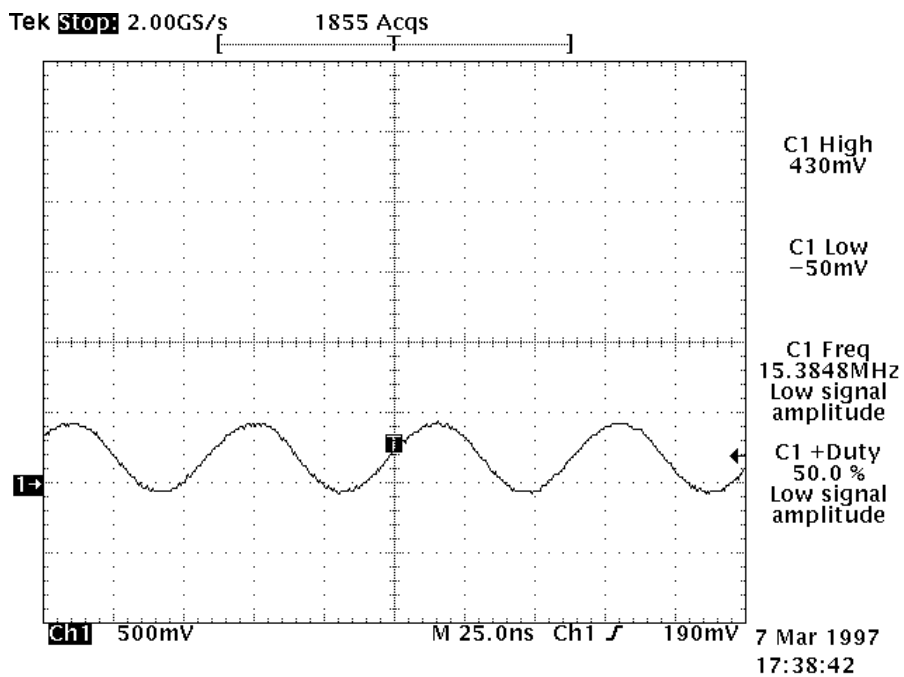

Figure 3
1.12 Check VCTCXO(G300) waveform at CDCONT(N201) pin 35 looks like Figure 3. Also check that VRXS line is 4.5Vdc at CDCONT(N201) pin 13. If all these conditions are meet check solder joints for shorts and opens, if they are OK replace CDCONT(N201).